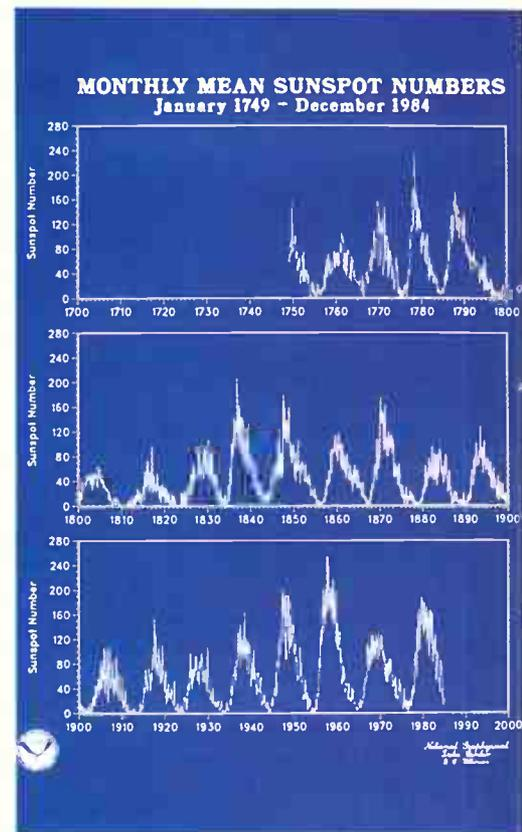

Figure 3. The solar cycles from monthly mean sunspot number, from 1749 to 1984. (Graph from NOAA, USA, supplied by IPS Radio and Space Services).
The strongest cycle on record was cycle 19, which peaked in 1957 (see Figure 3) with a yearly smoothed sunspot number of 201. The last cycle (21) peaked at 165 in 1979. It seems likely that this cycle will exceed cycle 21 in amplitude to become the second largest cycle observed since records were systematically kept. Some observers are saying that it is still possible that this cycle may even exceed cycle 19, to become the largest on record!